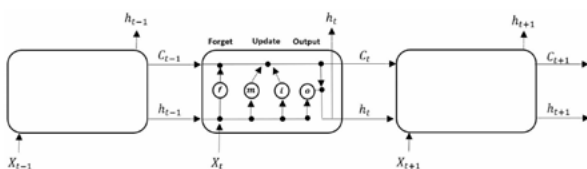

Figure 1—LSTM blocks, including the forget, update, and output gates.
- Cell State:** A central component that preserves information across time steps, represented by the top horizontal line in the architecture (Fig. 1).